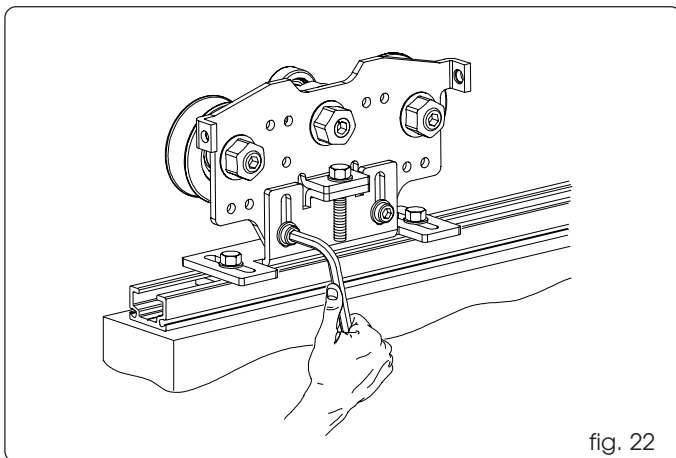

fig. 22
- Slightly loosen the two cylinder head screws - fig. 22.